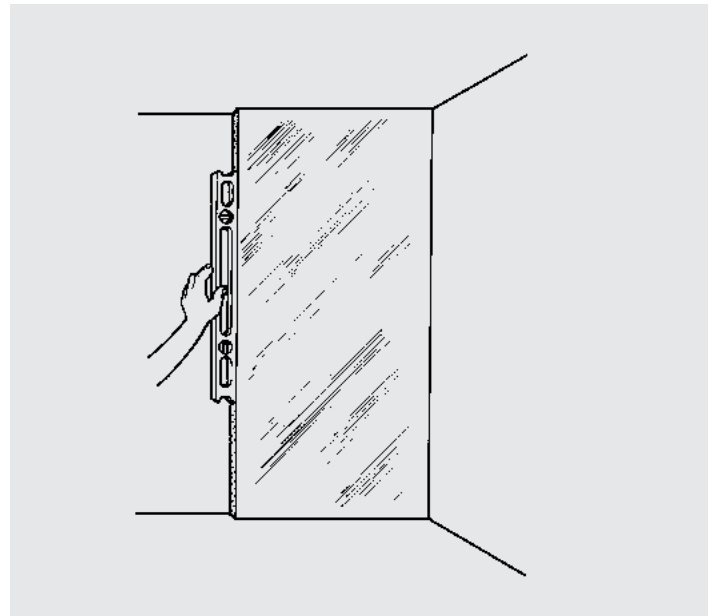

Figure 1.
- When installing **Thermax™ Sheathing**, boards must be fitted tightly together vertically and at right angles (90 degrees). See Figure 1. End-joint gaps greater than 1/8" should be filled with spray foam such as **Great Stuff Pro™ Gaps & Cracks Polyurethane Foam Sealant\*** or equivalent to keep a continuous air infiltration barrier and to help ensure maximum thermal efficiency across the board joints.